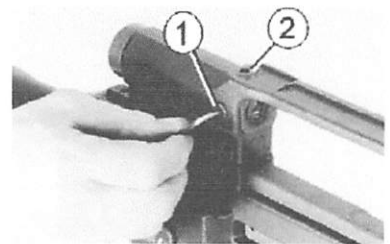

Fig. 71 Undo the adjusting screws
- ⇒ Undo the setting screws (Fig. 71/1 and 2) with an Allen wrench (3 mm).